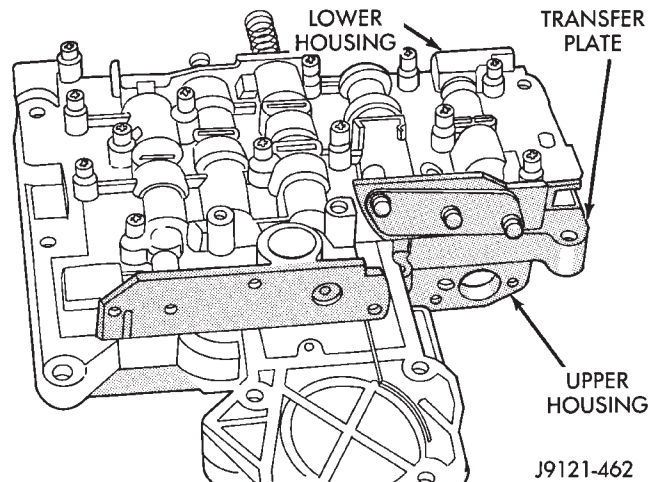

Fig. 120 Assembling Valve Body Upper And Lower Housings—46RH
(4) Install lower housing on assembled transfer plate and upper housing (Fig. 120).
(5) Install and start valve body screws by hand. Then tighten screws evenly to 4 N•m (35 in. lbs.) torque. Start at center and work out to sides when tightening screws.